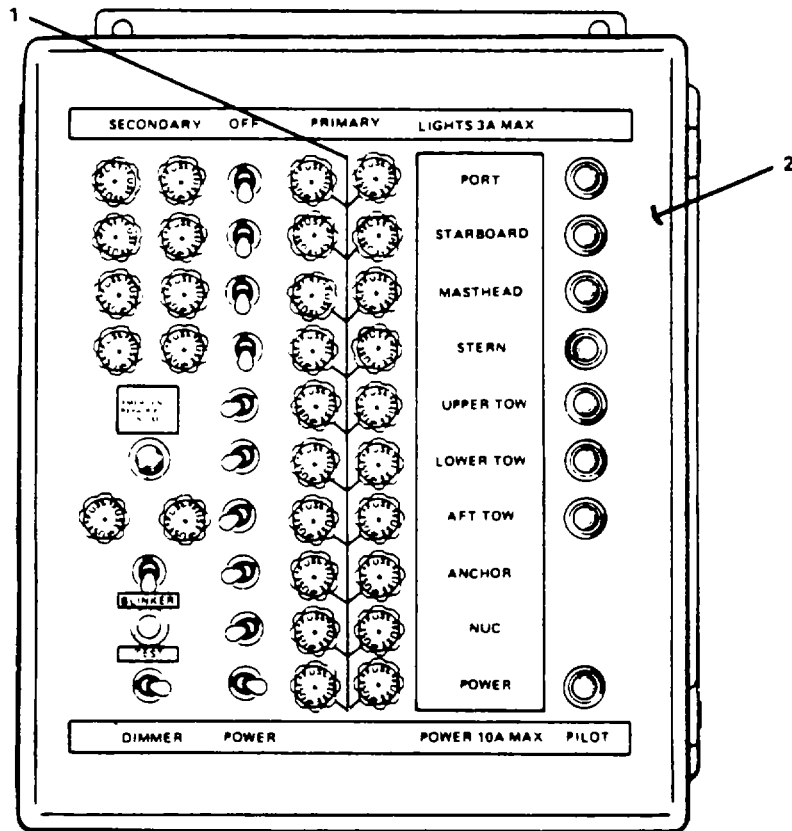

Figure 2-65. Repair Navigation Lighting Panel Fuses.
a. Remove fuseholder receptacle (1, Figure 2-65) by pushing in and turning counterclockwise to release fuseholder receptacle from panel (2).
b. Remove cartridge fuse from fuseholder receptacle (1).